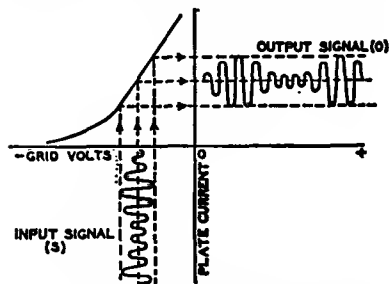

Fig. 34—Current characteristics of class A amplifier.
Fig. 34 gives a graphical illustration of this method of amplification and shows, by means of the grid-voltage vs. plate-current characteristics curve, the effect of an input signal (S) applied to